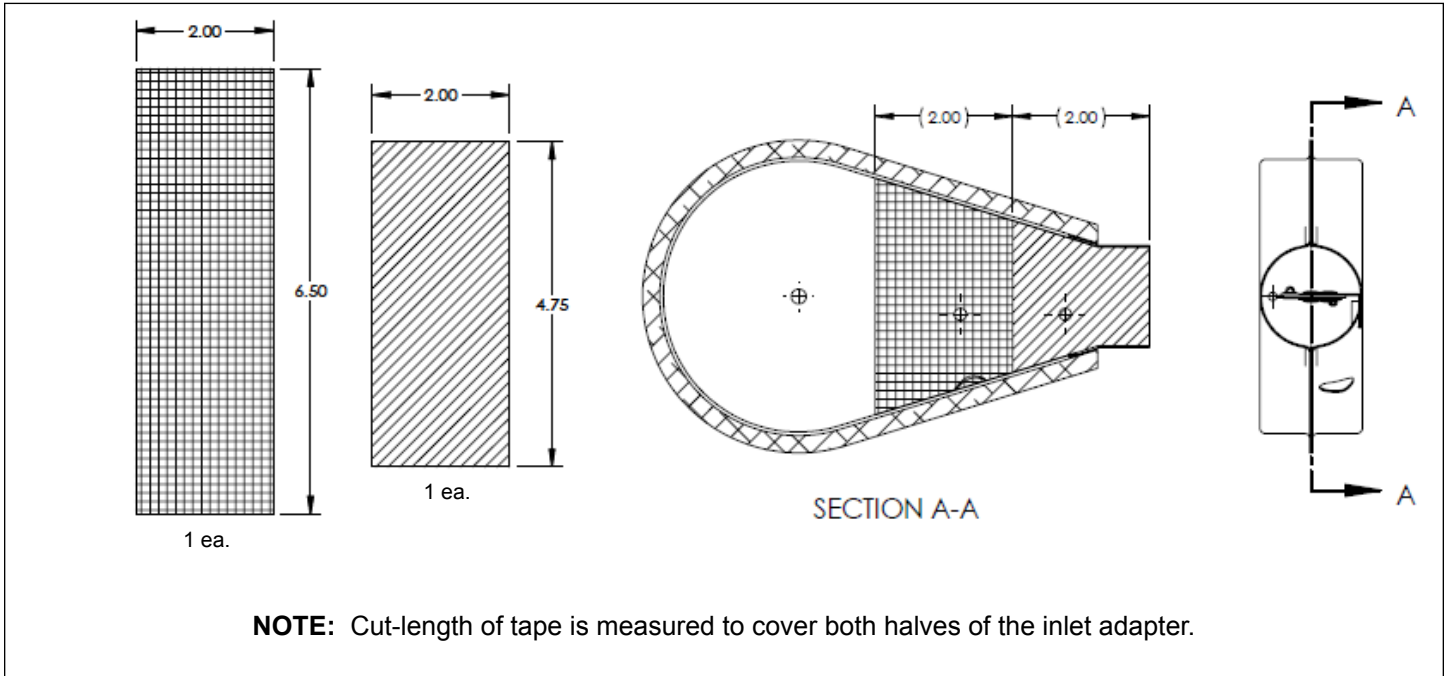

Figure 3 - Inlet Adapter Tape Installation
- (9) Measure, cut, and apply new tape as noted in Figure 3.